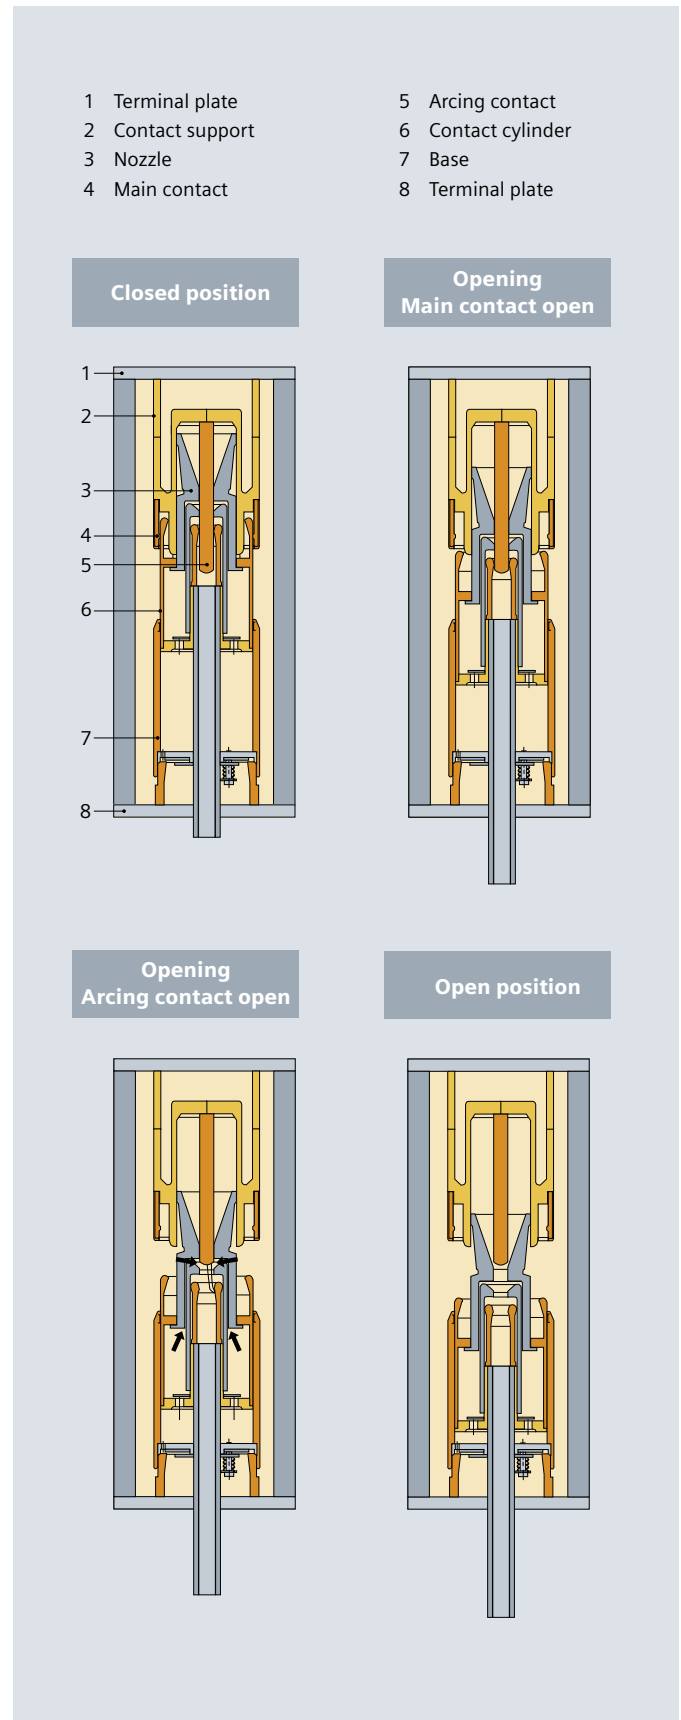

Fig. 4.1-2: The interrupter unit
The current conducting path of the interrupter unit consists of the contact support (2), the base (7) and the movable contact cylinder (6). In the closed position, the current flows via the main contact (4) and the contact cylinder (6); (fig. 4.1-2).